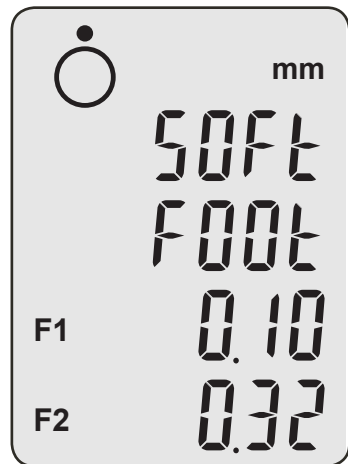

Fig. 28. Soft foot display
3. Press + and - simultaneously to reach the soft foot mode. The text "soft foot" should now be visible on the screen as shown on the figure 28.